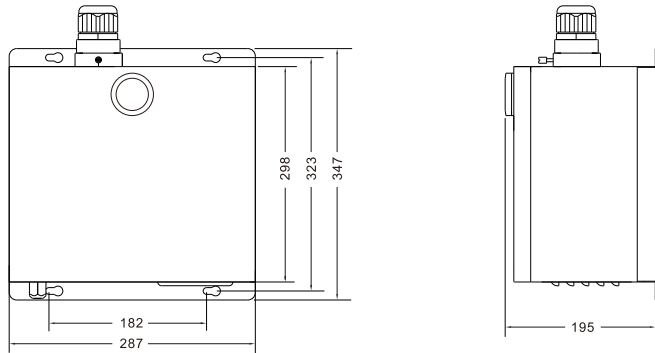

Fig. 1
2. Installation dimension of light engine(see Fig1):